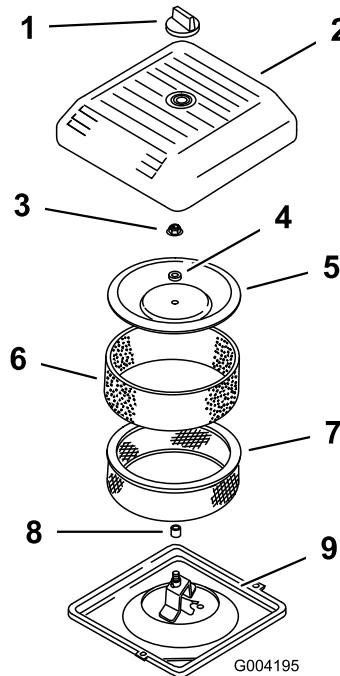

Figure 43
3. Unscrew the knob and remove the air cleaner cover (Figure 43).
4. Carefully slide the foam pre-filter off of the paper element (Figure 43).
5. Unscrew the cover nut and remove the cover, spacer and paper filter (Figure 43).
2. Place the air cleaner assembly onto the air cleaner base (Figure 43).
3. Install the cover, spacer and secure it with the cover nut (Figure 43). Torque the nut to 95 inch-lb (11 N·m).
4. Install the air cleaner cover and secure with the knob (Figure 43).